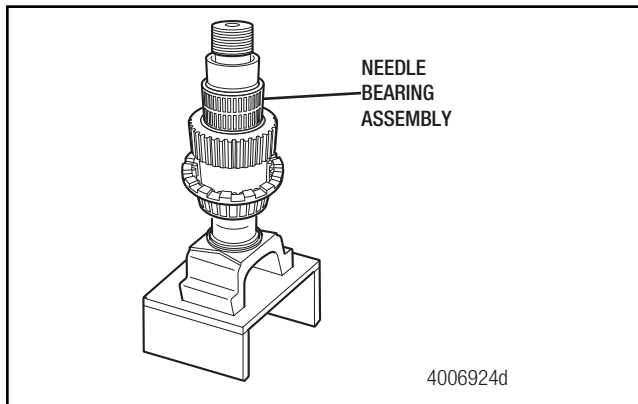

Figure 7.3
5. Install the needle bearing onto the rear half of the output shaft and lubricate it with a light coat of lithium-based grease, Meritor specification O-668. The needle bearing is a slip fit assembly. Figure 7.3.